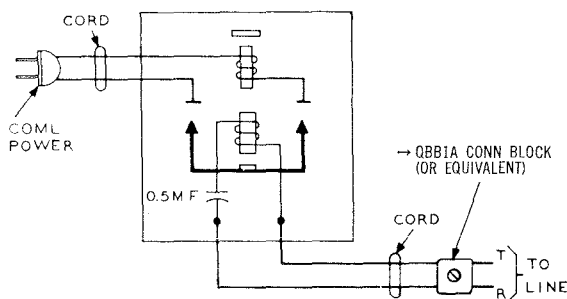

Fig. 2—Typical Relay-equipped Signal Connections
2.02 Connections for typical relay-equipped signals are shown in Fig. 2.